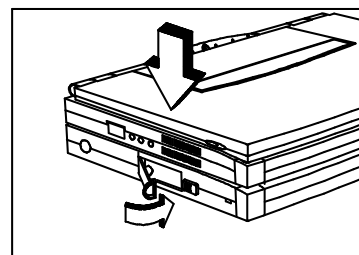

Figure 2-3 Docking the Notebook into the MPB
- 2.** Slide the lever release latch to the front of the MPB to release the docking lever (refer to Figure 2-3).
4. Slide the notebook into the MPB, right side first, as shown in Figure 2-3. Ensure that the docking guides on both the notebook and the MPB are securely hooked.